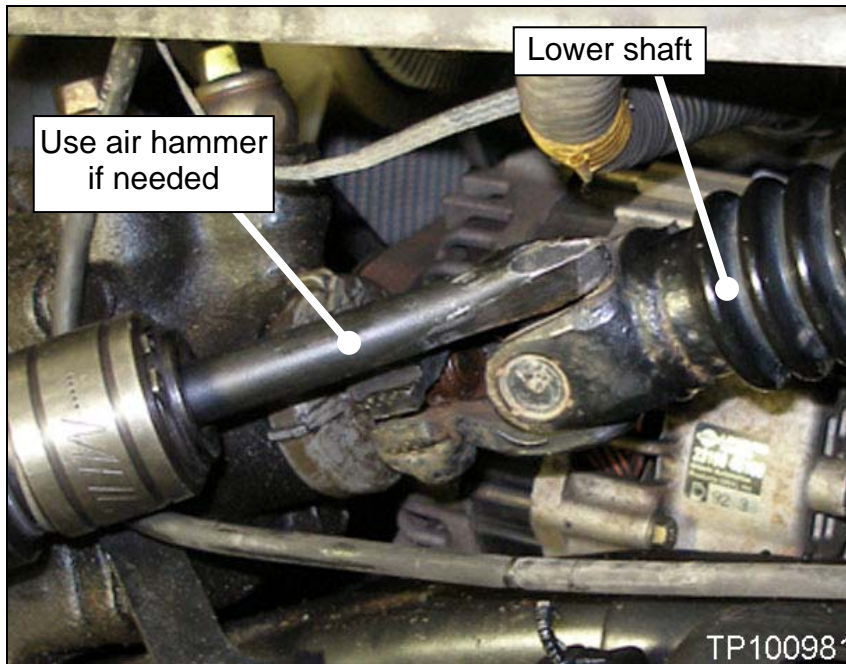

Figure 4
4. Move the lower shaft toward the steering column until the joint can be removed from the steering gear shaft. (see Figure 4 and 5).